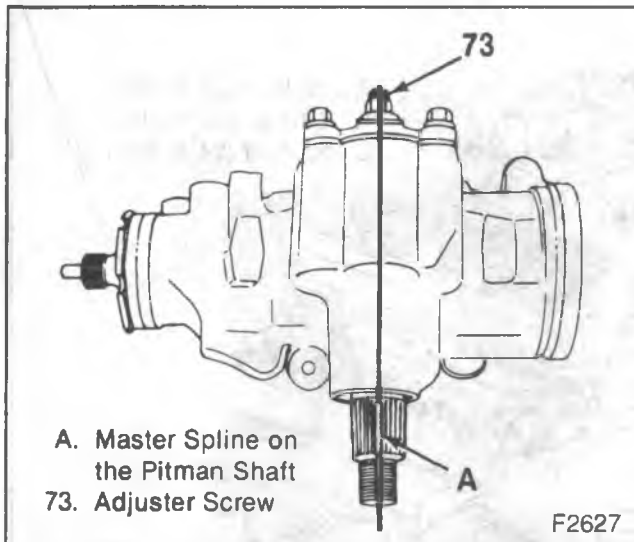

Figure 22—Aligning the Pitman Shaft Master Spline
spine on the pitman shaft should be in line with the adjuster screw (73) (figure 22).